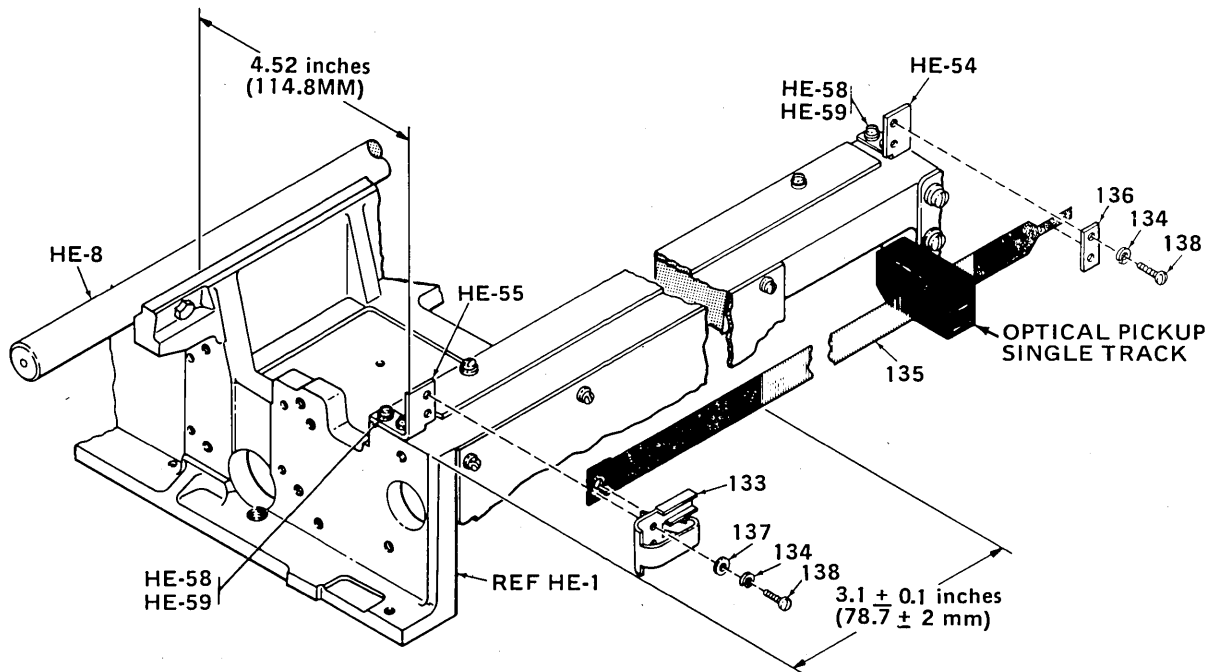

Figure 5-6. FLEXIBLE TIMING FENCE MOUNTING, SERIES 101
3. Flexible Timing Fence (Fig. 8-8/135). The timing fence is used to interrupt light through vertical slots for the optical pickup, single track head (Fig. 8-12/24 and Fig. 5-6).
- A. The following removable parts are not described in a disassembly/assembly order, but their locations are on the frame (HE) drawing with their key numbers.
- B. Flexible Timing Fence 63002440-1001 (Fig. 5-6).
1. Carefully remove video amplifier ass'y 63002668-4001 (Section 7) with attached optical pickup head 63002634-5003 (Fig. 5-6) from timing fence (135) by removing screws, washers (Fig. 8-3/55, 56, 57) holding the mounting bracket (See Fig. 8-3/50) to the carriage mechanism.
2. Loosen screws, washers (138,134) holding right-side clamp (136) to bracket (HE-54) on right side of printer frame (HE-1).
3. Unhook left side of flexible timing fence and remove from projection at back of clasp (133). Set timing fence aside.
4. To remove left-side clasp (133), remove two screws, washers (138, 134, 137) from left-side bracket (HE-55).
5. To remove right-side clamp (136), remove two screws, washers (138, 134) from right bracket (HE-54).
- A. Positioning of Suspended Timing Fence (Flexible) for First Character Printout (Fig. 5-6)
1. Loosen screws, washers (138, 134) on right-side clamp (136) and pull right end of tab of fence to the right so that the first window of fence is located  $3.1 \pm 0.1$  inches ( $78.7 \pm 2$  mm) from edge of printer casting (See Illustration, Fig. 5-6). (Note, that this dimension allows for a 5/8-inch nominal printout margin on the printing form).
2. When correct dimension has been applied, secure fence by tightening mounting hardware on the clamp (136).
- B. Establishing Fixed Parallelism for Suspended Timing Fence (Fig. 5-6).
WHEN INSTALLING AND ADJUSTING VIDEO AMPLIFIER ASS'Y WITH MOUNTED OPTICAL HOUSING (FIG. 5-6) WITH RESPECT TO TIMING FENCE, AVOID SCRATCHING OF EMULSION ON TIMING FENCE (SIDE MARKED, "RIGHT").